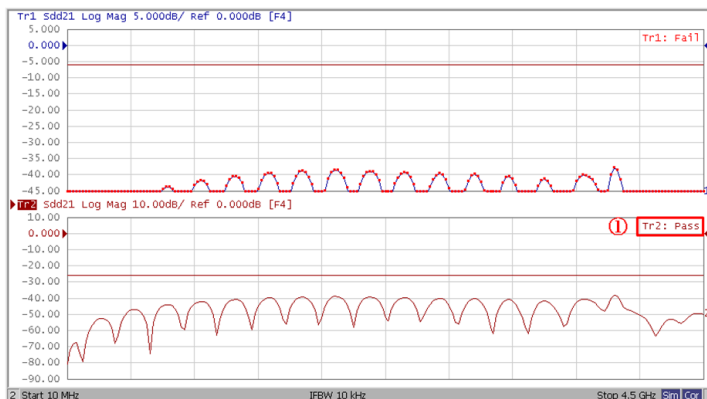

Figure 7-3: Measurement Example of SI-08
Observable Results: Read the pass/fail sign on Trace2 (item1 in Figure 7-3).